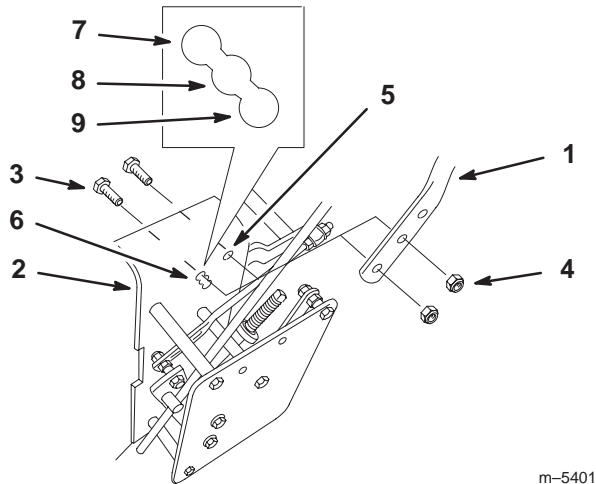

Figure 3
Important Install the flange bolts (3/8 x 1 in. (26 mm)) with the bolt head on the inside of machine frame. Refer to figure 3.
- Align upper handle with upper mounting holes in rear frame (Fig. 3).
- Secure each upper mounting hole with a flange bolt (3/8 x 1 in. (26 mm)) and flange nut (Fig. 3).
- Select medium or low position for the lower mounting hole (Fig. 3). This allows the upper handle to be adjusted to the user's height preference.
- Secure each lower mounting hole with a flange bolt (3/8 x 1 in. (26 mm)) and flange nut (Fig. 3).